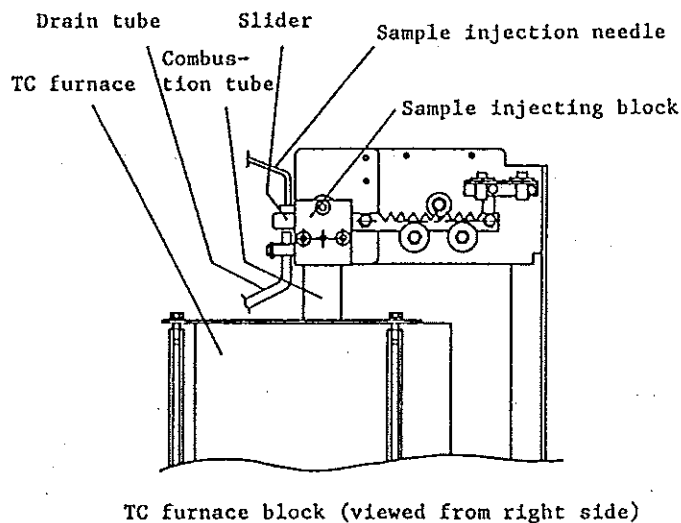

Fig. 5.3 Connection of TC Combustion Tube Upper End
- 3) Apply thin coat of supplied high vacuum silicon grease on the outer surface of TC combustion tube upper end (which is to be in contact with O-ring), and insert the coated upper tube end portion into the bottom hole of slidable TC sample injecting block. For this coating, use as little silicon grease as possible, taking great care so that grease does not enter TC combustion tube. Screw mounting plate with slidable TC sample injecting block to the fixed plate, ensuring that slider and slider-driving gear are engaged with each other as shown in Fig. 5.3. Take care so that vertical force is not applied on slider; otherwise, airtightness between slider and O-ring in sample injecting block would be lost.